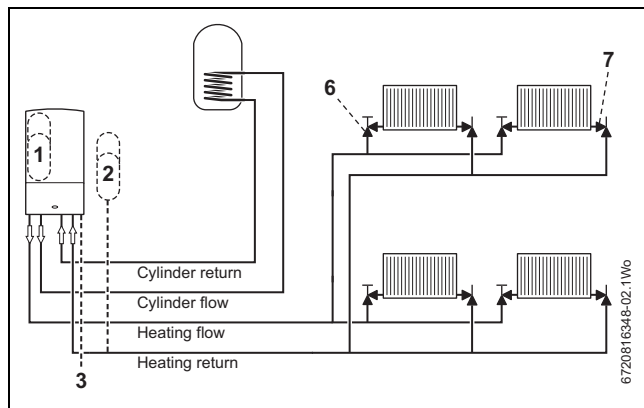

Fig. 3 General pipe layout
i In all cases the cylinder manufacturer must be contacted for confirmation their product is suitable for the installation layout shown in figure 3.
- The general layout (figure 3) can be used for unvented cylinder by utilising the high limit thermal cut out of the cylinder dual-thermostat to interrupt the permanent live to the appliance, preventing any heat being produced from the appliance. Wiring example → section 5.7.6, page 18.
Table 5 Key to figures 3 & 4